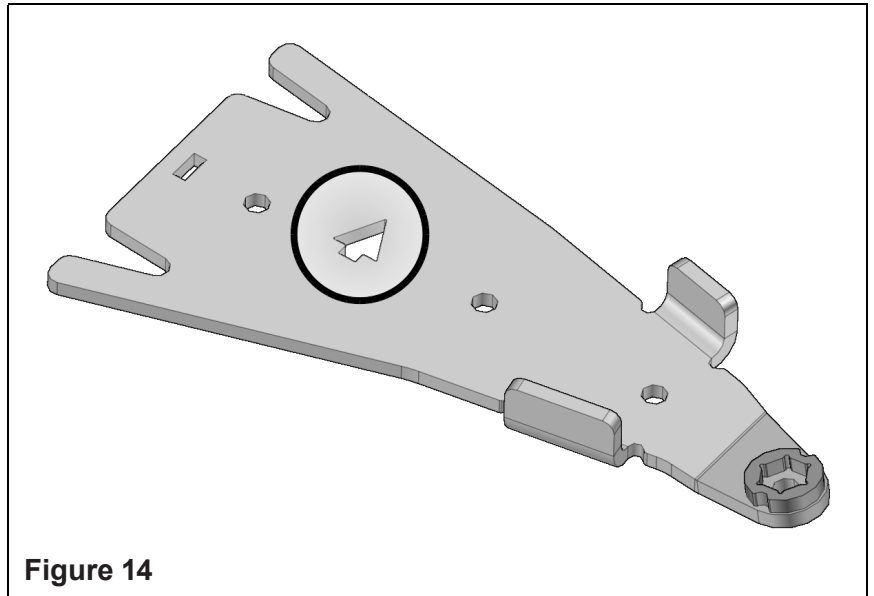

Figure 14
1. For installation purposes, directional arrows have been cut out of the main components in the anchor bracket kits. These arrows indicate the front of the vehicle relative to the component. Figure 14.